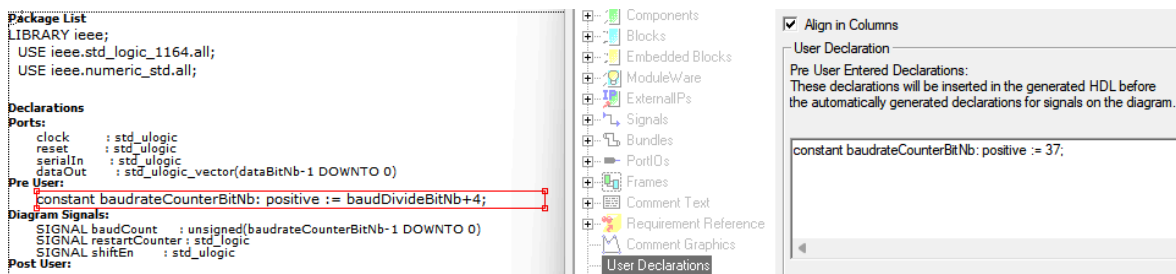

Figure 7 - Modify system counter bit number
- Input the required number of bits in the system. For this, in the **COM/serialPortReceiver**, double click the **baudCounterBitNb** constant definition at the top left of the schematic and edit it in the newly open window under **User Declarations** as shown under Figure 7 then click **Apply**: